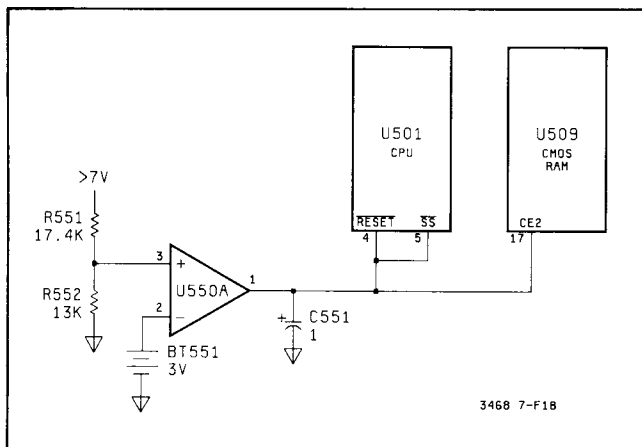

Figure 7-F-18. Power-On Circuitry
a. **Power-On Circuitry.** Refer to Figure 7-F-18 or Schematic 3. The Power-On Circuitry resets the CPU when the 3468A is turned on and when the $>7V$ power supply (raw supply for the +5V supply) is low. The step by step operation is as follows: